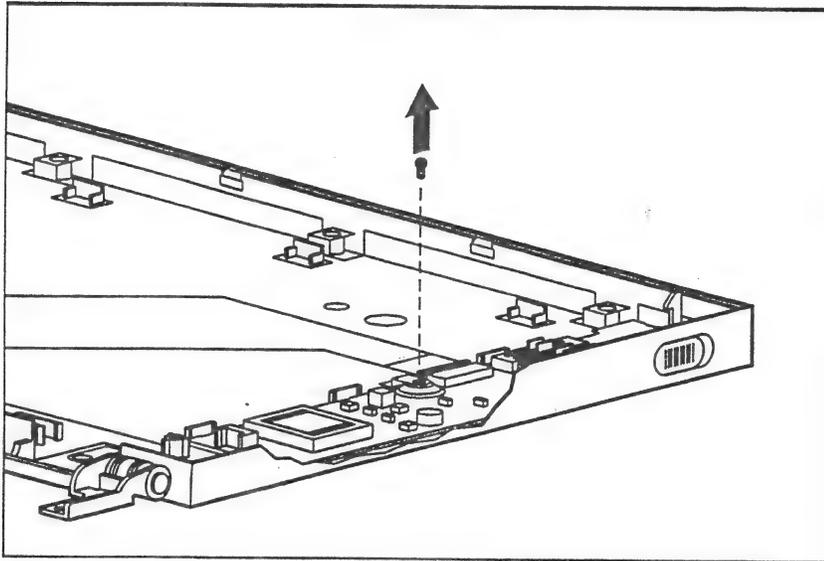

Figure 2-40. Removing the Display Cable Screw
2. Using a Phillips P-0 screwdriver, remove the display cable screw securing the ground cap, cable tab, and display inverter board (Figure 2-40).